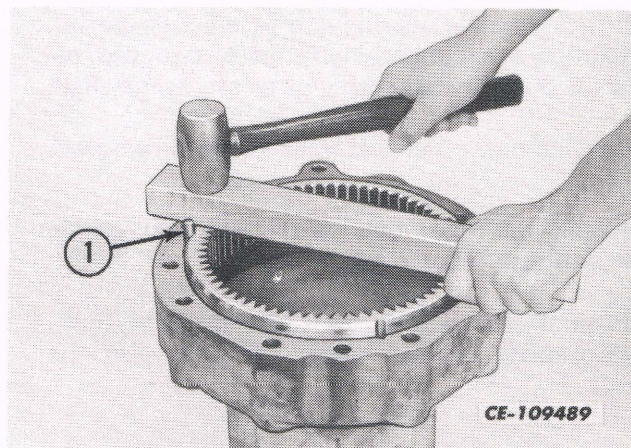

Fig. 15
17. Install the axle carrier ring gear with dowels using a wood block. Tap on the ring gear equally, all the way around. Refer to Fig. 15.